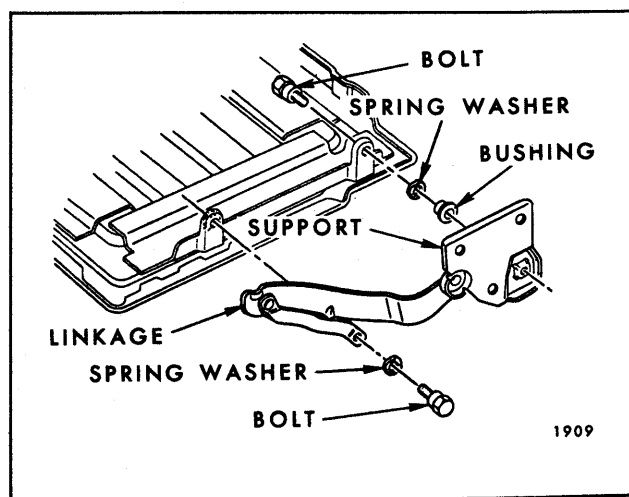

Fig. 10-55—Third Seat Back Panel and Linkage
2. At both sides of third seat back panel remove seat back linkage bolt (Fig. 10-55) and bolt securing seat back panel to support (Fig. 10-55); then remove seat back panel assembly from body.